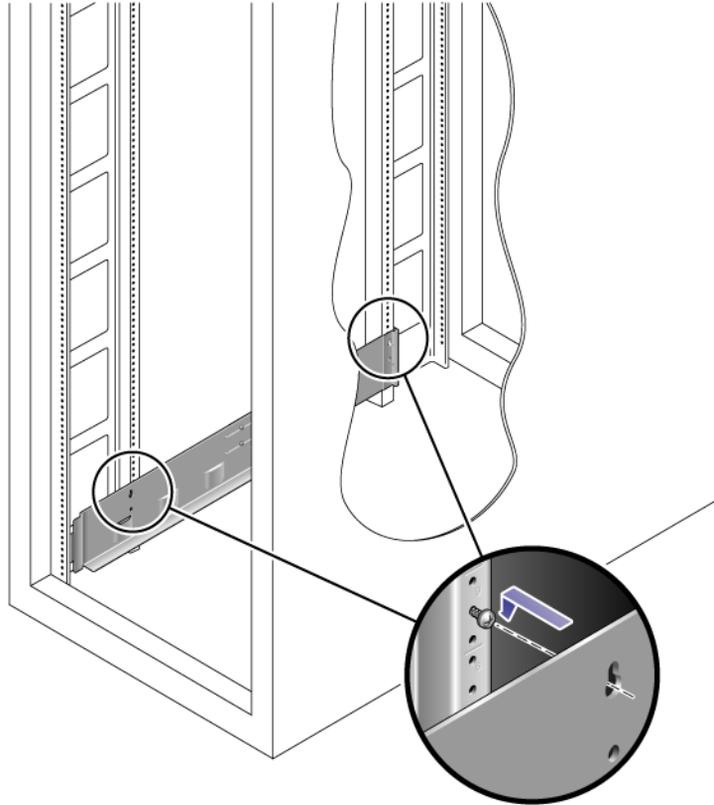

FIGURE 2-8 Hanging the Rail
2. Hang the rail by aligning the large slots of the rail over the front and back screws and then pulling the rail down so that each screw is at the top of the slot (FIGURE 2-8).